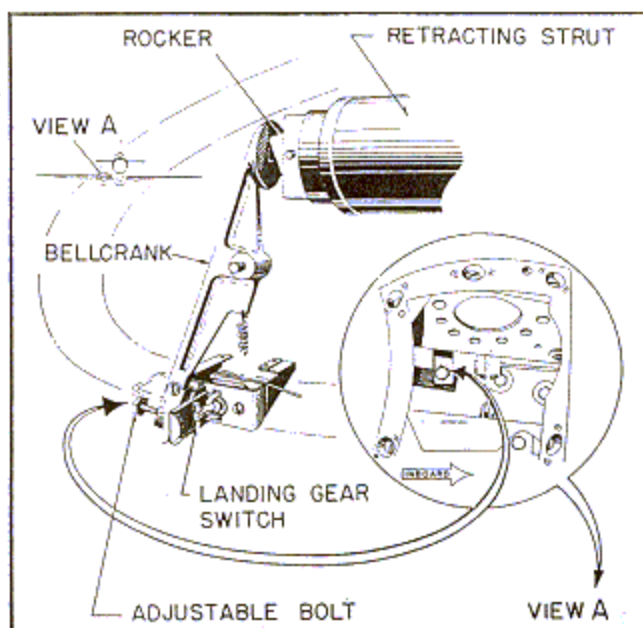

Figure 134—Landing Gear Warning Light Switch
2. There are two main landing gear switches, one attached to the under panel in each "knee" just above the oleo strut. These switches are normally closed and are actuated independently by separate rocker and bellcrank mechanisms controlled by action within the retracting struts. (See figure 134.)